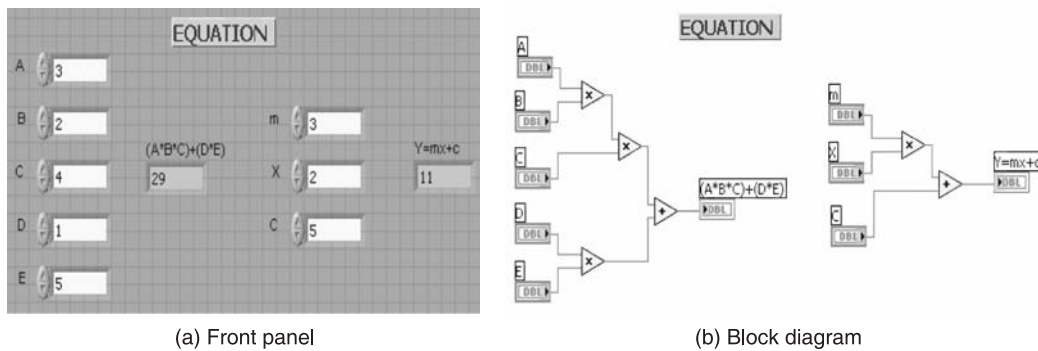

Figure P2.5
**Solution** The front panel and block diagram for solving two equations are shown in Figures P2.5(a) and P2.5(b).